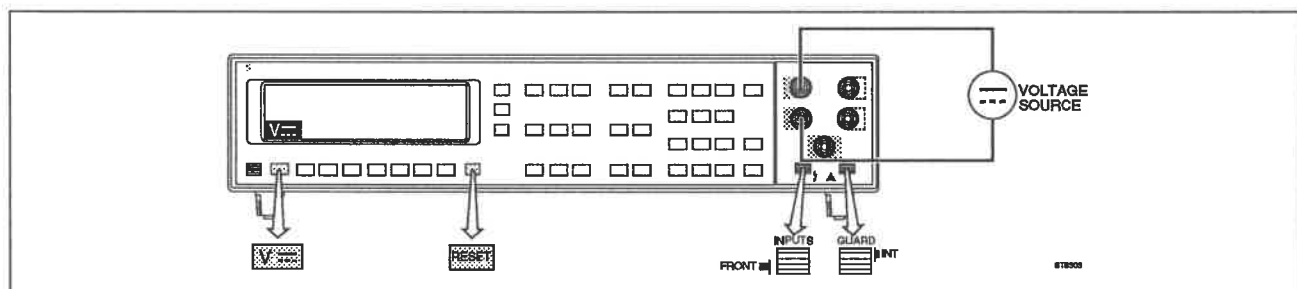

Fig. 4.1 Start-up example, basic instrument functions.
5. Connect the DC Voltage to be measured, to the front "VOLTS INPUT" terminals VΩ- COM (see Fig. 4.1).